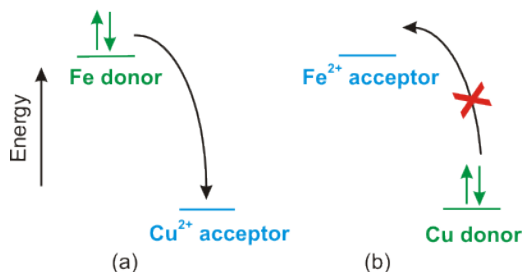

Figure 9.1: Electrons Transfer Spontaneously to Lower Energy
Figure 9.1 represents the electron transfer from an isolated iron atom to an isolated copper(II) ion to produce an iron(II) ion and a copper atom. The electrons are on Fe initially, so it is the donor (reducing agent or reductant). The produced Fe^{2+} has empty redox orbitals, so it can function as an acceptor (oxidizing agent or oxidant). Thus, Fe is a donor, and Fe^{2+} is the produced acceptor, so Fe/Fe^{2+} is one redox couple in the reaction. The acceptor orbitals on Cu^{2+} are empty, but they are occupied in Cu. Thus, Cu^{2+} is the initial acceptor and Cu is the produced donor, so Cu/Cu^{2+} is the other redox couple in the reaction. The electrons are at higher energy on the donor (Fe) than on the acceptor (Cu), so the electron transfer is downhill in energy, exothermic, and spontaneous. The electron transfer from Cu to Fe^{2+} is uphill in energy, endothermic, and NOT spontaneous.